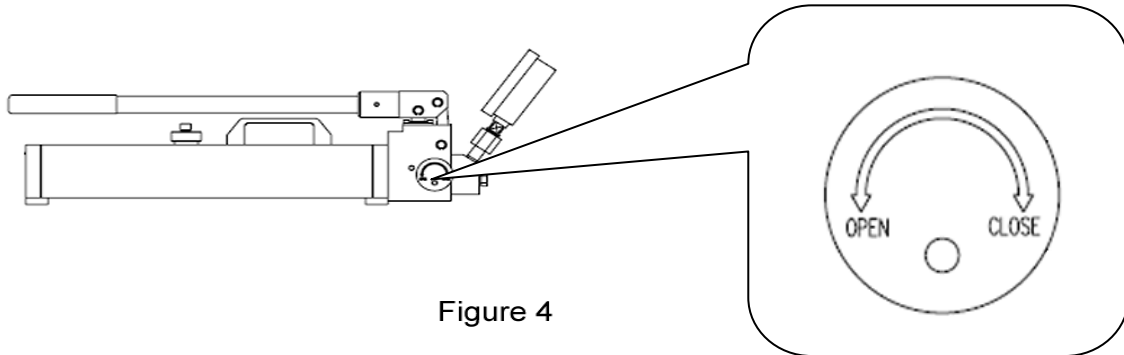

Figure 4
- To extend a cylinder, close the valve (Please see Figure 4). Then operate the handle up and down to produce pressure.